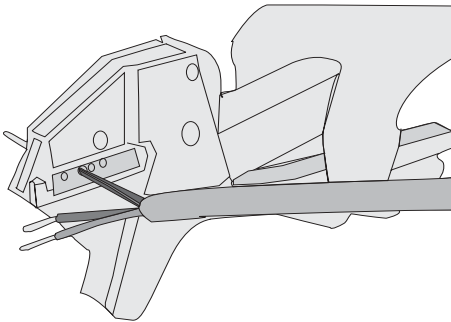

Fig 10.3 Assembling receptacle insert
3. Insert the receptacle insert (4) with guide lug into the keyway of the flange socket sleeve (2) [Fig. 10.3].